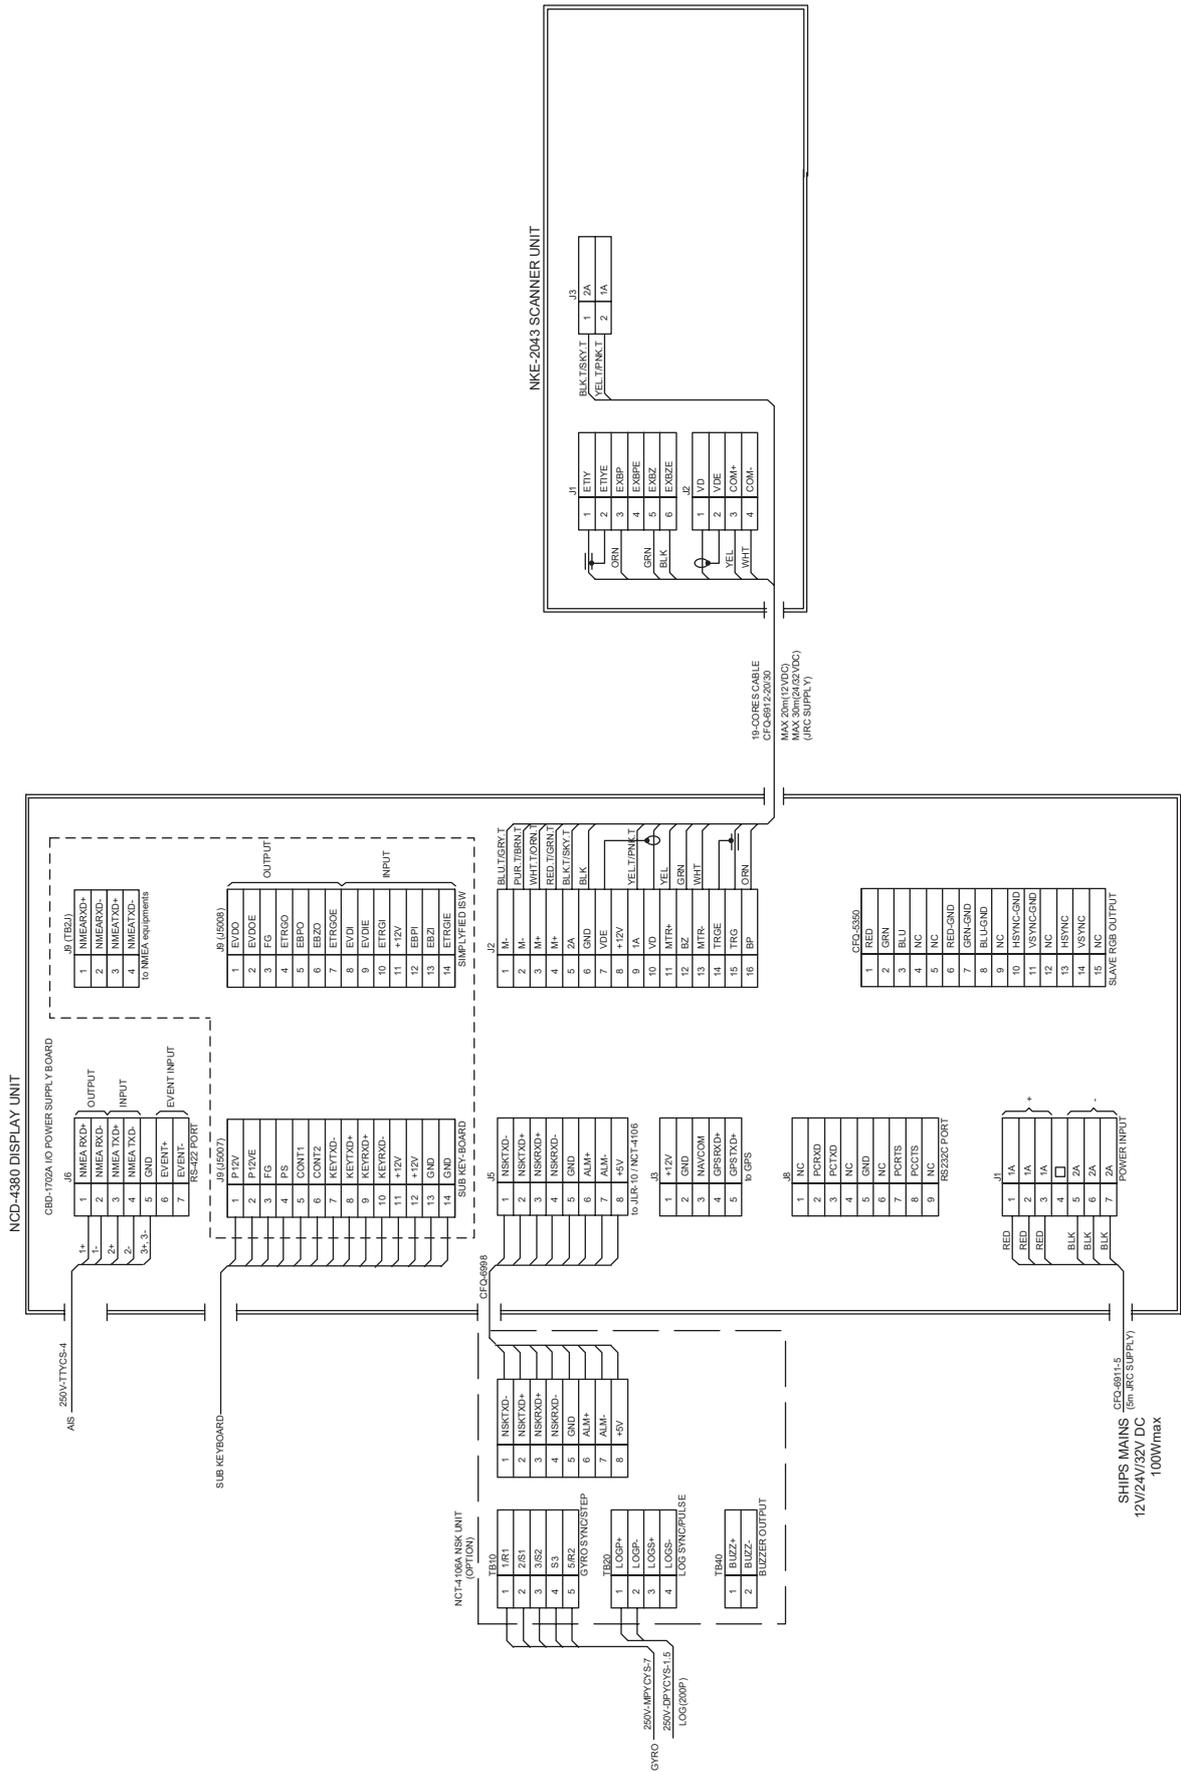

Figure 2 JMA-5204 Inter-connection Diagram
- FIGURE 2 JMA-5204 INTER-CONNECTION DIAGRAM